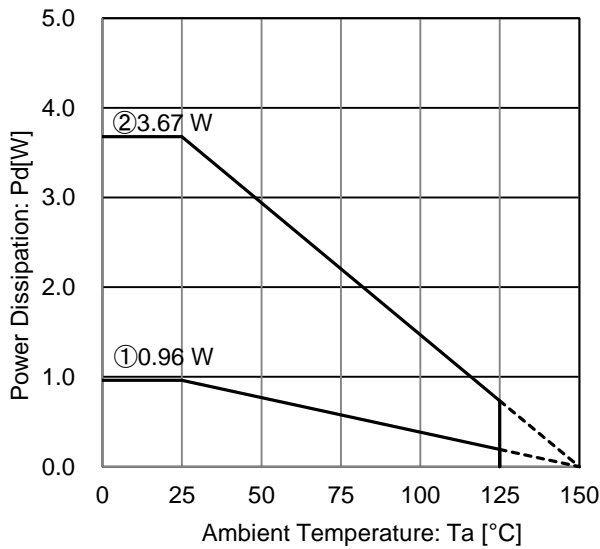
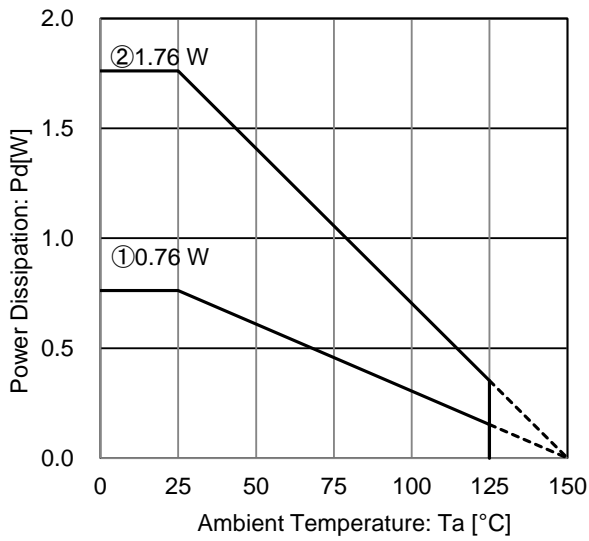

Figure 25. HTSOP-J8 Package Data
Figure 27. SOT223-4(F) Package Data
Refer to the heat mitigation characteristics illustrated in Figure 25 to Figure 27 when using the IC in an environment of  $T_a \geq 25^\circ\text{C}$ . The characteristics of the IC are greatly influenced by the operating temperature, and it is necessary to operate under the maximum junction temperature  $T_{jmax}$ .
At  $T_a = 125^\circ\text{C}$  with Figure 25 ② condition, the calculation shows that ca 71.5mA of output current is possible at 10.2V potential difference across input and output.
At  $T_a = 125^\circ\text{C}$  with Figure 25 ② condition, the calculation shows that ca 85.8mA of output current is possible at 8.5V potential difference across input and output.
At Ta=125°C with Figure 27 ② condition, the calculation shows that ca 34.3mA of output current is possible at 10.2V potential difference across input and output.
At Ta=125°C with Figure 27 ② condition, the calculation shows that ca 41.1mA of output current is possible at 8.5V potential difference across input and output.